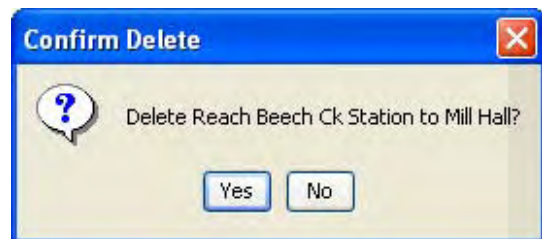

Figure 8.14 Confirm Delete of Reach
3. Select **Delete** from the shortcut menu. A **Confirm Delete** dialog box will appear (Figure 8.14).